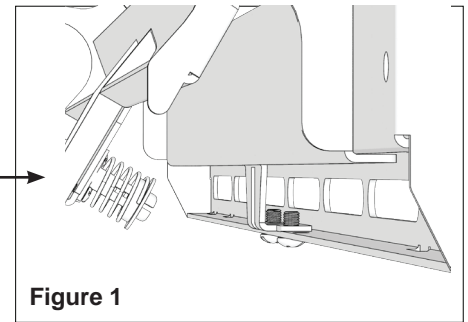

Figure 1
- 1) Push evenly in the front of the PFW 6875 to release the single latch spring lock (Figure 1).